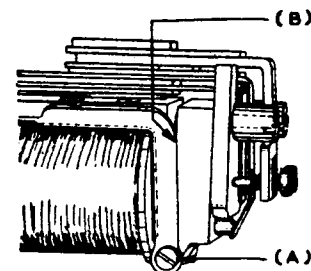

Fig. 2 - 366 Type Relay
1.09 Armature Movement — Fig. 2 (A): Move freely on its pivot screws.
1.10 Clearance Between Armature and Yoke — Fig. 2 (B): Armature to clear sides of yoke approx. $.010''$.